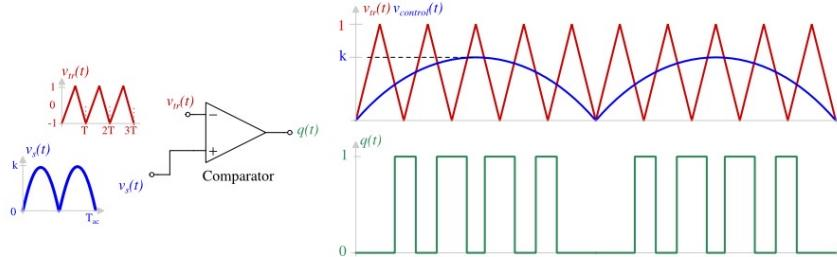

Figure 3.2: Sine-triangle intercept modulation.
- You can use a circuit similar to the one shown in Figure 3.2 to obtain the PWM signals of the fast switching devices (S_1 and S_2).
- You can use a circuit similar to the one shown in Figure 3.2 to obtain the PWM signals of the fast switching devices (S1 and S2).